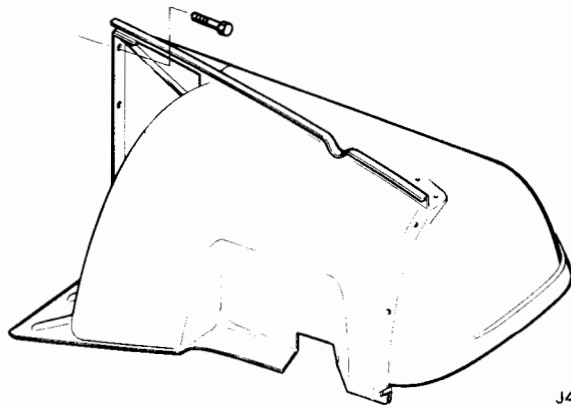

Fig. 14-12 Front Fender—CJ Models
- (1) Remove or disconnect all items attached to apron of fender.
- (2) Disconnect electrical connector at side marker lamp.
- (3) Remove bolts and washers securing fender and brace to dash panel (fig. 14-12).
- (4) Remove bolts, washers, and nuts attaching fender to radiator grille guard panel.
- (5) Pull fender outboard and lift from vehicle.
- (6) Position fender on vehicle and install fender-to-radiator grille guard panel attaching bolts, washers, and nuts.
- (7) Install fender and brace-to-dash panel attaching bolts and washers.
- (8) Connect side marker lamp electrical connector.
- (9) Install and connect items previously removed from apron of fender.